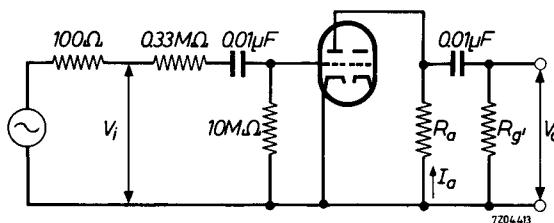

Fig. 3
A.F. amplifier - circuit fig.3.
**OPERATING CHARACTERISTICS (continued)**A.F. amplifier - circuit fig.3. (continued)